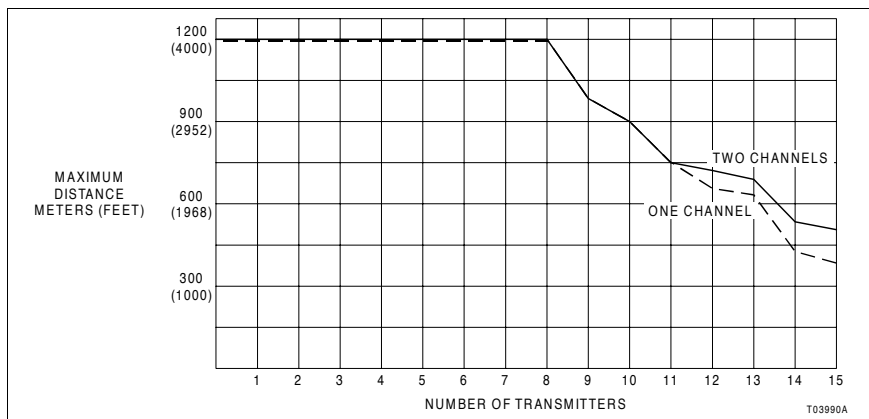
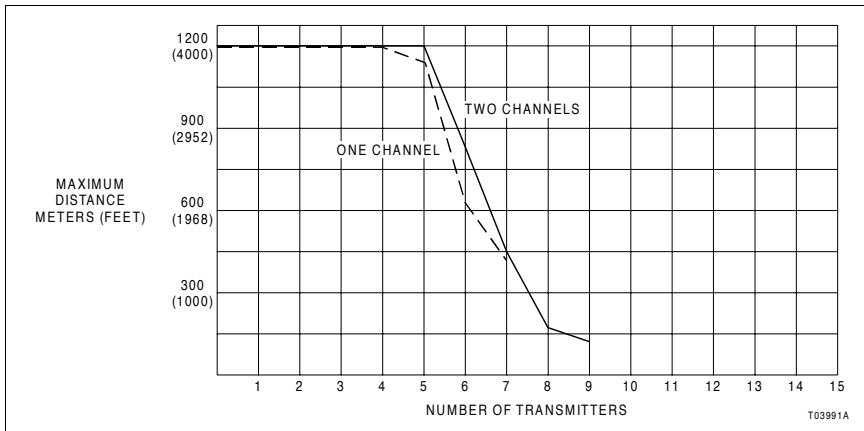

Figure 2-6. Maximum Total Field Bus Length (for Field Bus Module Communication)
Figure 2-7. Maximum Total Field Bus Length (for STT02 Transmitter Communication)
1. The total length of field bus wire for a given number of transmitters must not exceed the length specified in Figure 2-6 for termination unit to transmitter communication. Figure 2-7 applies to smart transmitter terminal to transmitter communication when the Type STT02 Smart Transmitter Terminal is connected to the termination unit.
4. The data on communication lengths for the Type STT02 Smart Transmitter Terminal (Fig. 2-7) applies when the STT02 terminal is connected to the termination unit and communicating to a transmitter on the field bus. When the smart transmitter terminal is connected to a transmitter and communicating to a transmitter on another branch of a star field bus, these communication lengths may be lower.
NOTE: The maximum bus lengths shown in Figures 2-6 and 2-7 are maximum bus lengths without intrinsic safety barriers.